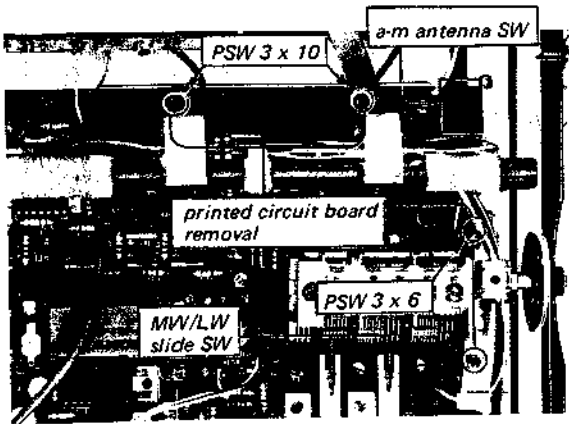

Fig. 2-9. Printed circuit board removal
2. Remove the four screws shown in Fig. 2-9. This frees the printed circuit board.
MW/LW Slide Switch and A-m Antenna Switch (See Fig. 2-9)